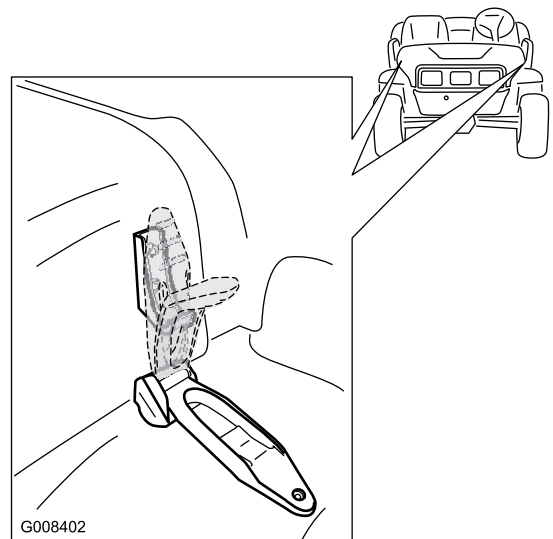

Figure 21
1. Release the rubber straps on both sides of the hood (Figure 21).